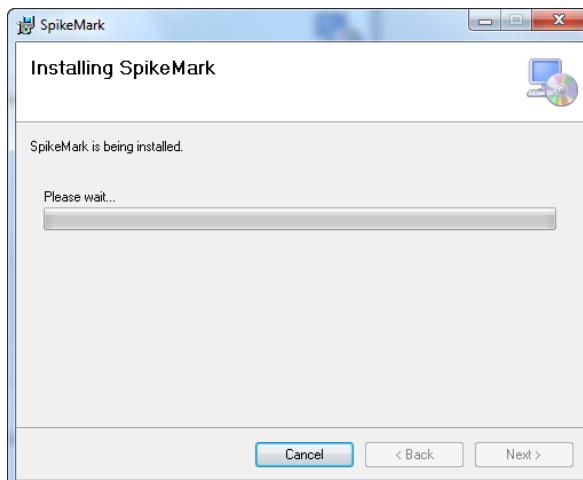

Figure 6
8. The **Installing SpikeMark** window will launch (Figure 6).